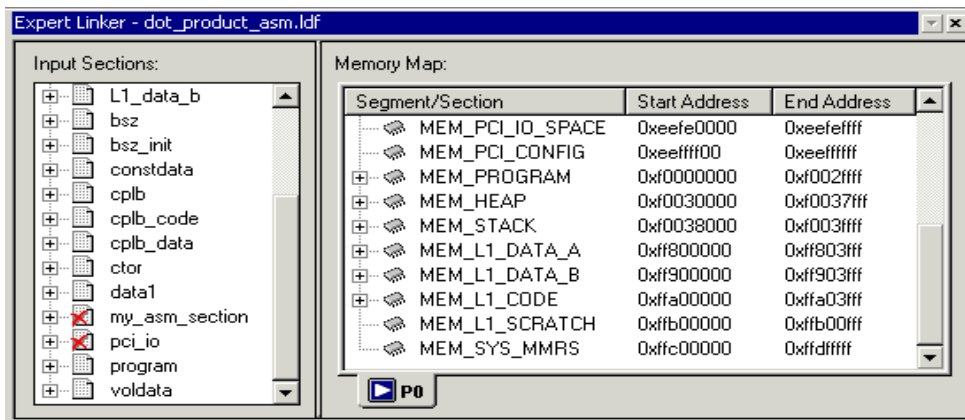

Figure 2-21. Expert Linker Window
4. In the **Project** window, double-click in the `dot_prod_asm.ldf` file. The **Expert Linker** window (Figure 2-21) opens with a graphical representation of your file.
Resize the window to expand your view and change the view mode. To display the tree view shown in Figure 2-21, right-click in the right pane, choose **View Mode**, and then choose **Memory Map Tree**.